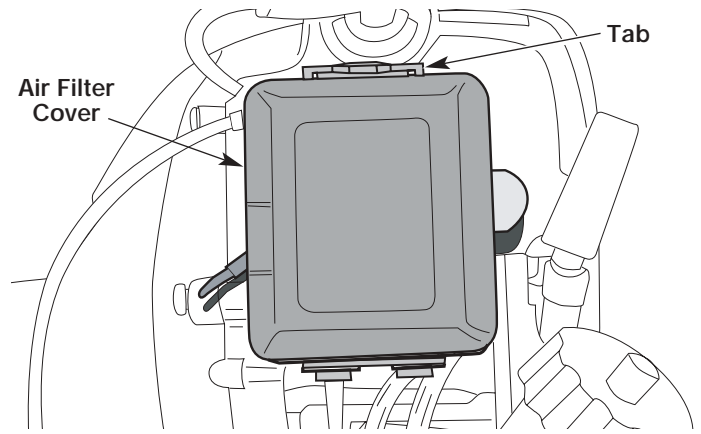

Fig. 20
1. Remove the carburetor/air filter cover by pushing on the tab on top of the cover (Fig. 20).